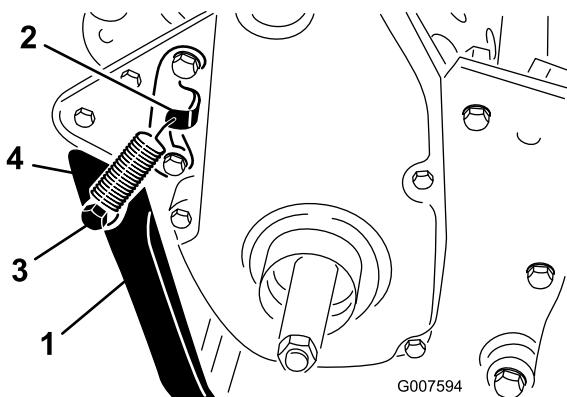

Figure 7
2. Hook the spring into the hole in the spring bracket and onto the spring stud while aligning the kick stand with the mounting holes in the rear frame (Figure 7).
3. Mount the kick stand to each side of the frame with a bolt, lockwasher, spacer, flat washer and locknut (Figure 7). Position the spacer in the kick stand mounting hole.